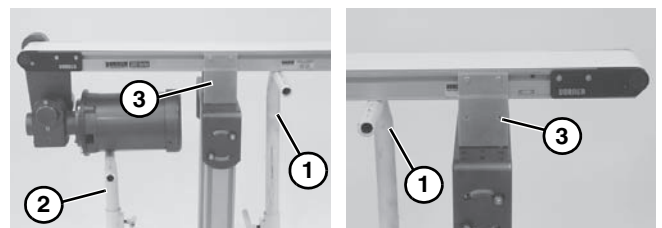
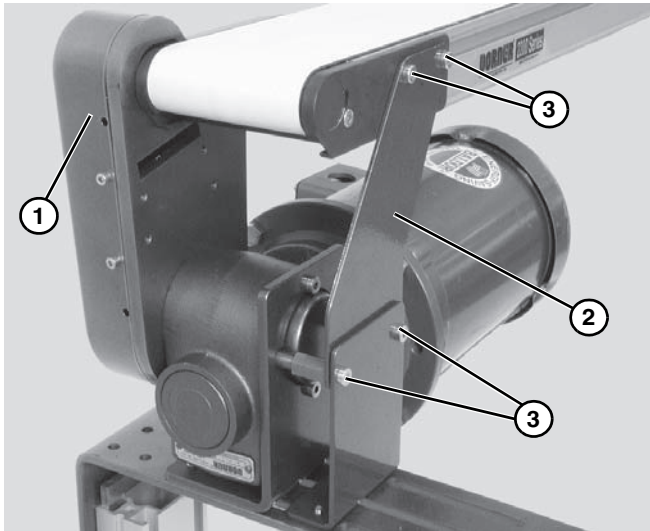

Figure 21
Figure 22
1. Place temporary support stands (**Figure 21, item 1**) at both ends of the conveyor. Place an additional support stand under the drive motor (**Figure 21, item 2**), if equipped. See WARNING.
- Remove mounting brackets (**Figure 21, item 3**) from one side of conveyor. (Reverse steps 3 and 4 of "Attach Mounting Brackets" section beginning on page 7.) If equipped with heavy load drive package, remove brackets from side opposite drive cover (**Figure 22, item 1**).
- If equipped, remove return rollers, guiding and accessories from side opposite drive cover (**Figure 22, item 1**).
- If equipped with heavy load drive package, remove drive support bracket (**Figure 22, item 2**): Remove bracket screws (**Figure 22, item 3**) then remove bracket (**Figure 22, item 2**).